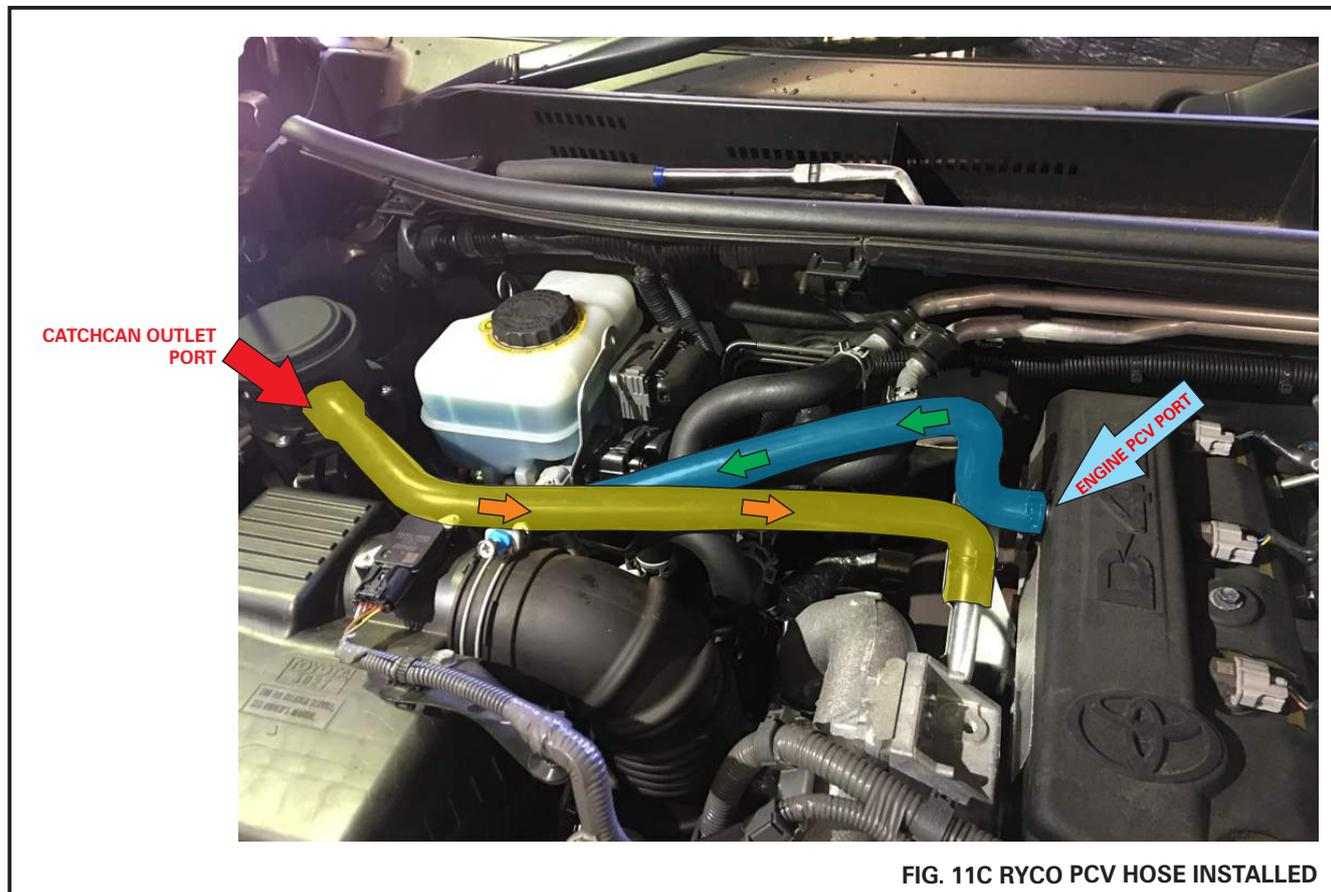

FIG. 11C RYCO PCV HOSE INSTALLED
3. Starting with the MH9804X PCV hose (coloured blue in Fig. 11C), install the small end on to the Engine PCV Port & tighten with the MS4092 hose clamp as shown in Fig. 11
5. Install the larger end of the MH9804Y hose (coloured yellow in Fig. 11C) on to the upper, outlet port, of the RCC351 Catchcan and tighten with a MS4091 hose clamp. Install the other end of the MH9804Y PCV hose on to the Air Intake PCV port, then tighten with a MS4092 hose clamp.